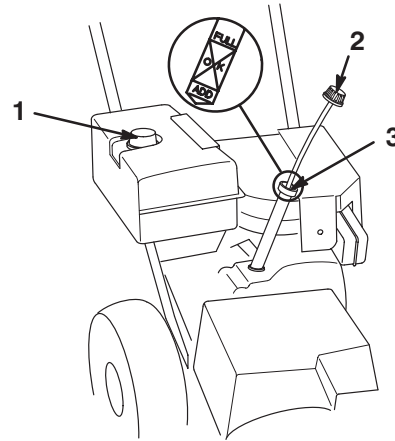

Figure 12
2. Clean around the dipstick (Fig. 12).
3. Remove the dipstick by rotating the cap counterclockwise and pulling it out (Fig. 12).
1. Clean around the fuel tank cap (Fig. 12).